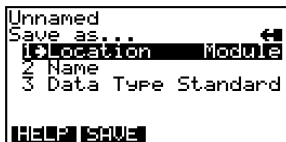
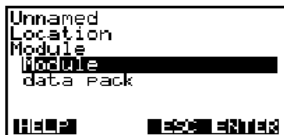

FIGURE 1-16. Save As... Menu.
FIGURE 1-17. Location Menu.
**Save as...** saves your new configuration to either the Memory Module or the data pack 100. See **Figure 1-16** and **Figure 1-17**. The Memory Module holds up to 10 typical configurations, and contains the operating system software, and device application software in nonvolatile memory. The data pack stores up to 100 typical configurations in nonvolatile removable memory.